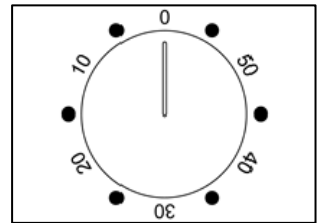

Fig 24
**USING THE MINUTE-MINDER ( fig.24)**